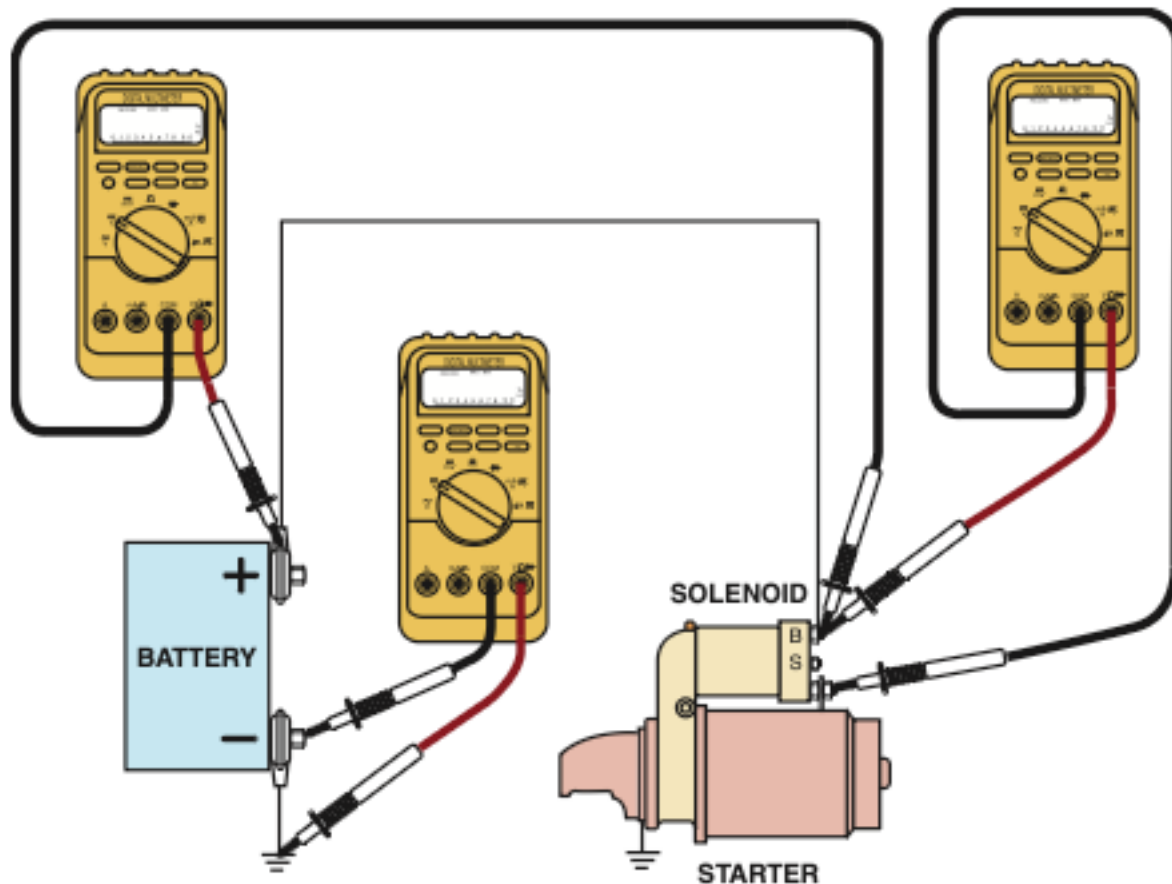

Figure 7. Voltmeter connections for voltage drop tests.
- Check voltage drop of the starter circuit . Any high resistance in either the power side or ground side of the starter circuit causes the starter to rotate slowly or not at all. Fig 7.